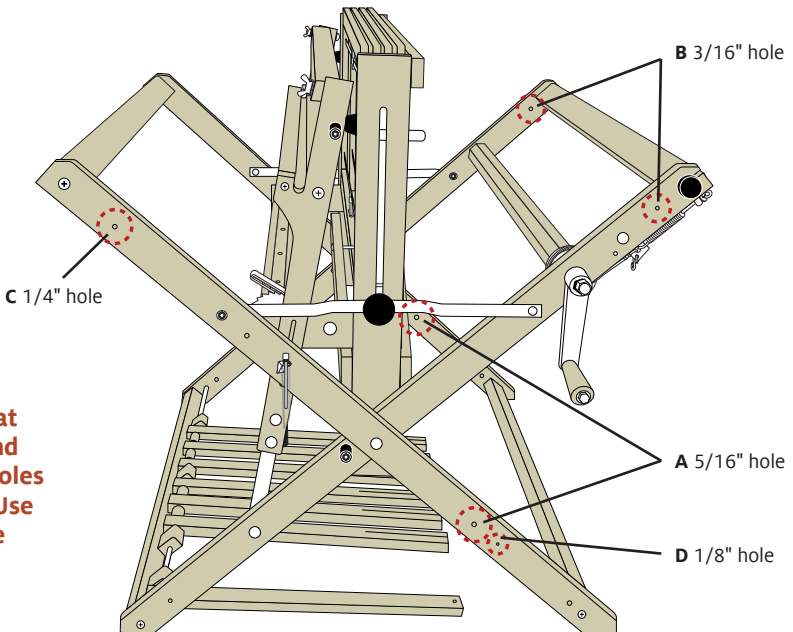

FIGURE 1: HOLES ON OLDER WOLF LOOMS
2. Drill 5/16" holes at [A] through each outside leg of the loom. Place these holes in the center of the legs and 30-7/8" down from the top edge of the leg (Figure 1).
3. Drill 3/16" holes at [B] through each inside leg of the loom. Place these holes in the center of the legs and 3" from the top edge of the legs (Figure 1). *If your serial number is earlier than 4-2287 or 8-742, place this hole 2-7/8" from the top of the rear oval beam.*
4. Drill a 1/4" hole [C] through the right outside leg, 4-1/2" from the top edge of the leg and centered on the leg (Figure 1).
5. Drill a 1/8" hole [D], 5/8" deep, centered in the right outside leg, and 32-7/8" from the top edge of the leg (Figure 1).